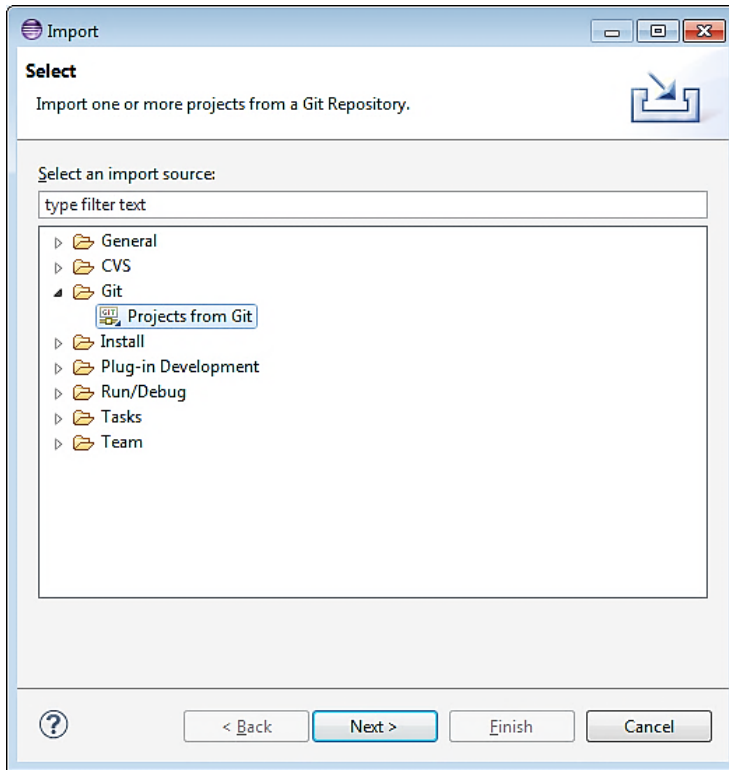

Figure 13: Importing OpenEIS with Eclipse from Local Source (continued)
2. Select Git -> Projects from Git, then click the Next button (Figure 13)